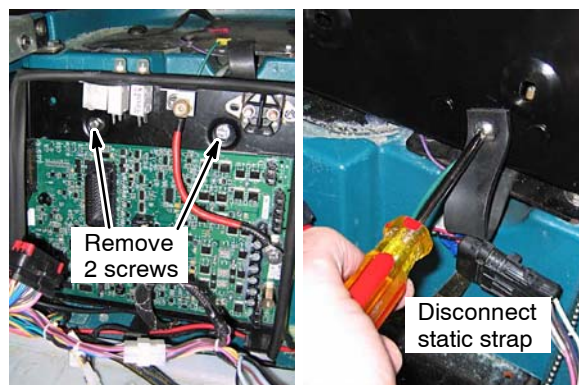

Fig. 3
5. Remove the old control box from the machine (Figure 3). Do not discard the old control box.